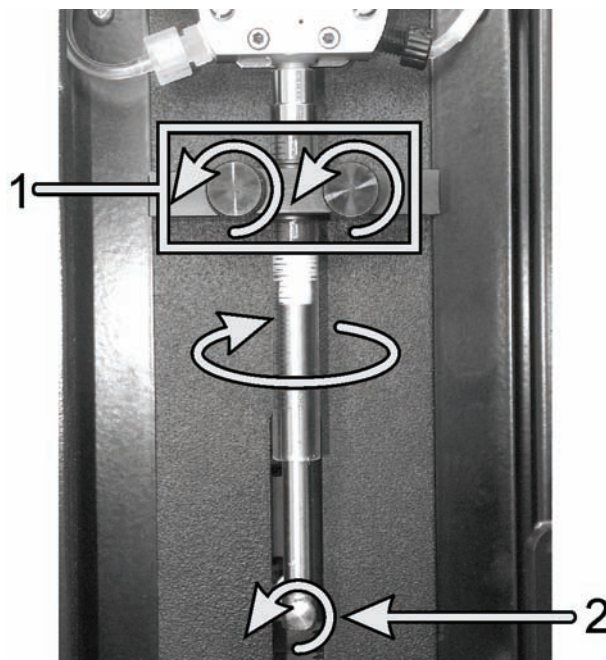

Figure 179: Removing the syringe with clamp screws (1) and plunger screw (2)
7. Loosen the two screws that hold the syringe clamp (see Figure 179).
8. Remove and retain the thumbscrew holding the plunger to the pull-down arm (see Figure 179).
9. Twist the glass tube in the direction shown in Figure 179 to unscrew it from the syringe valve.